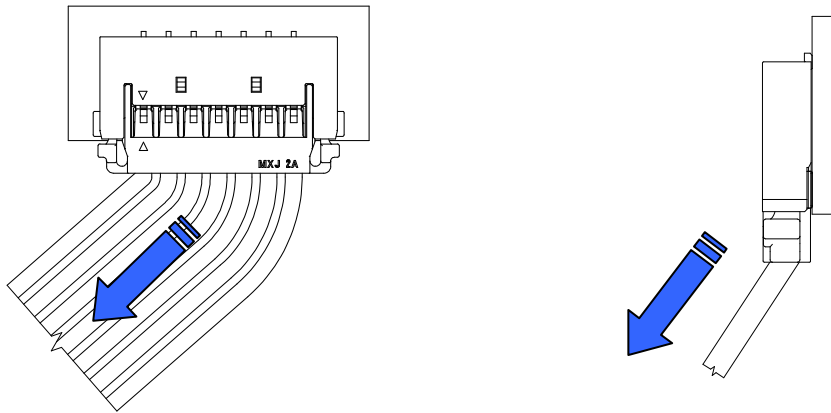

Fig.9-3-2 Condition wires are bent excessively or tension is added
- ※When pulling wires around inside actual machine, please do not use under the condition that wires are bent excessively or tension is added. That might be reason for terminal pull out because force is added to terminal crimping zone or terminal insertion portion of receptacle by wire tension. Especially, please be careful force is not added to only particular wire. (Fig.9-3-2)
- ※If wire routing specially inside customer's device, please confirm our company before using. (Fig9-3-2/9-3-3 etc.)